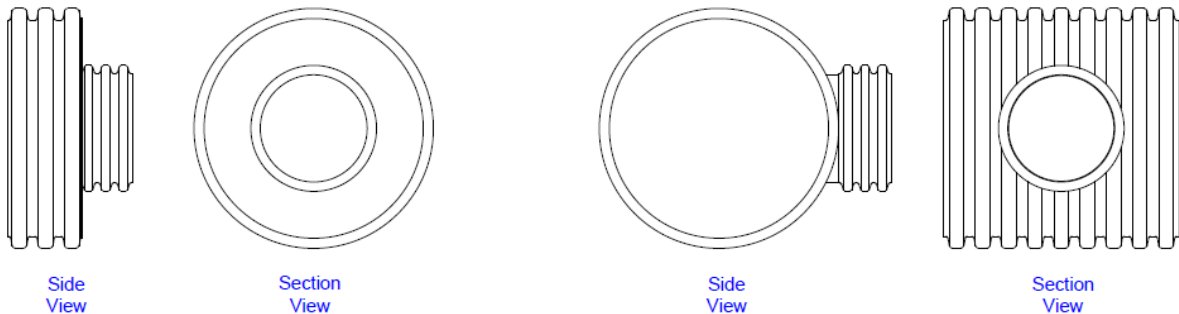

Figure 6: Concentric Reducers
- Concentric Reducers (components where the reducing stub is positioned in the center of the main fitting, so the flow lines don't match), shown in Figure 6, promote trapping the sediment and debris in designated areas of the system.